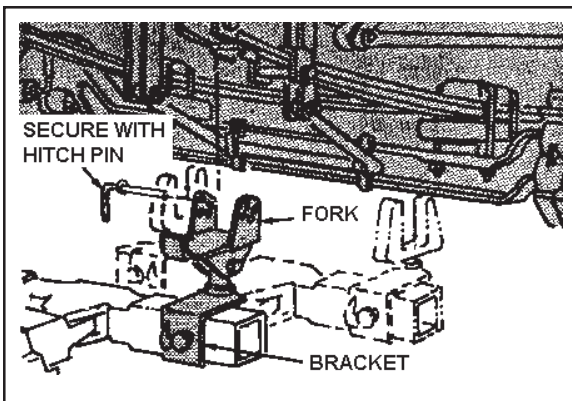

Figure 4-16.
8. Get out the underlift forks that are most suitable for the pickup points you picked earlier. Insert and secure the forks in the fork holders. Optional forks may need to be ordered from your Vulcan distributor to handle certain applications. (See Figure 4-16.)